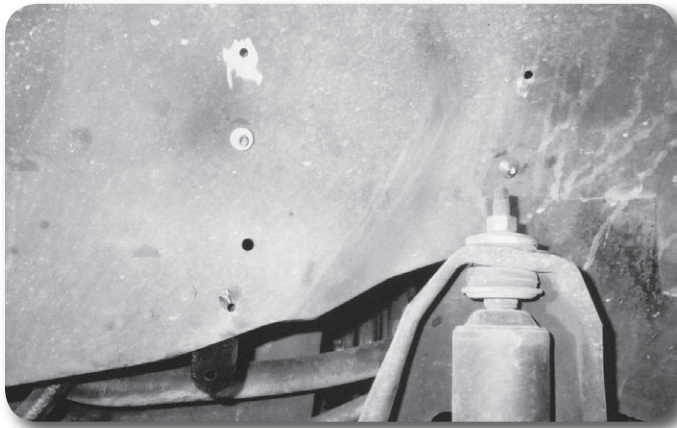

Figure 4
24. Move the bracket straight down from the original mounting holes (Fig. 4) until the bottom support leg is just on the edge of the inner fender (about 2" down). On some models, it may be necessary to bend the bracket legs slightly. Mark the new hole locations (the bottom leg can no longer be used) and drill two 3/16" holes. (The lower support leg can be trimmed so that it does not extend past the edge of the inner fender)